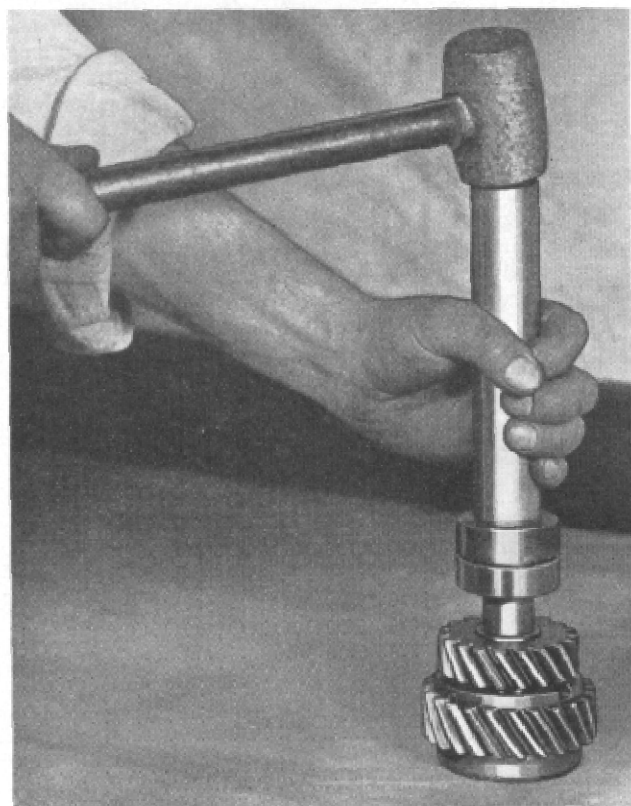

Figure 12
Install main drive gear ball bearing (12) on main drive gear (15) using bearing installing tool J-779. (See Fig. 12.)